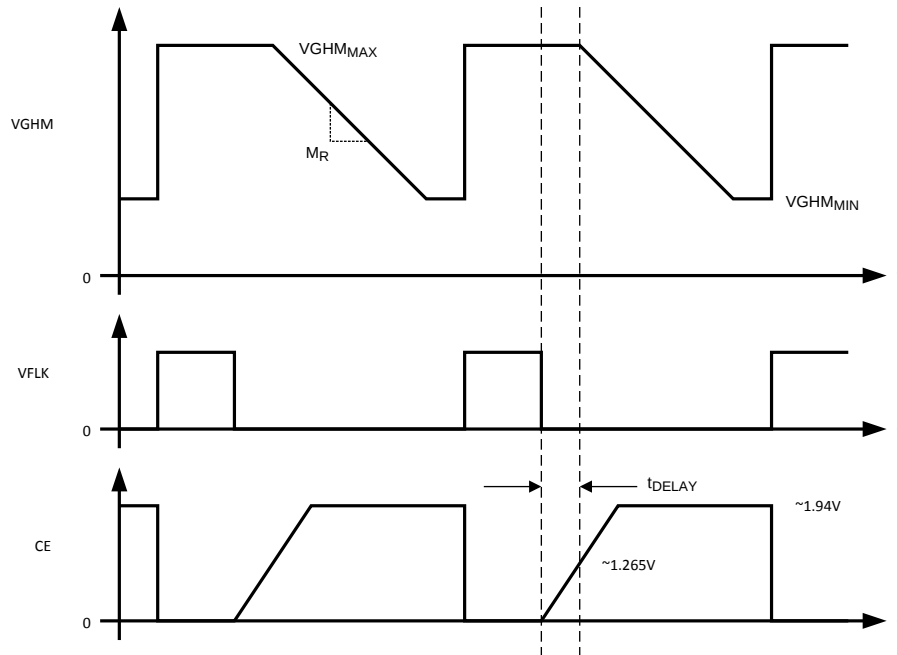
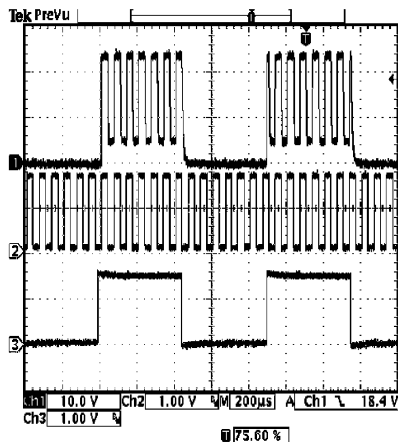

Figure 57.
Figure 58. Waveform
The Gate Pulse Modulation (GPM) block is designed to provide a modulated voltage to the gate driver circuitry of a TFT LCD display. Operation is best understood by referring to the GPM block diagram in the Block Diagrams section, the drawing in Figure 57 and the transient waveforms in Figure 58 and Figure 59.
When VDPM is high, typical waveforms for the GPM block can be seen in Figure 57. The pin VGH is typically driven by a 2x or 3x charge pump. In most cases, the 2x or 3x charge pump is a discrete solution driven from the SW pin and the output of the boost switching regulator. When VFLK is high, the PMOS switch P2 is turned on and the PMOS switch P3 is turned off. With P2 on, the VGHM pin is pulled to the same voltage applied to the VGH pin. This provides a high gate drive voltage, VGH_{MAX} , and can source current to the gate drive circuitry. When VFLK is high, NMOS switch N3 is on which discharges the capacitor CE.
When the voltage on CE reaches about 1.265V and the VFLK signal is low, the PMOS switch P2 will turn off and the PMOS switch P3 will turn on connecting resistor R3 to the VGHM pin through P3. This will discharge the voltage at VGHM at some rate determined by R3 creating a slope, M_R, as shown in Figure 57. The VGHM pin is no longer a current source, it is now sinking current from the gate drive circuitry.
Figure 58 and Figure 59 give typical transient waveforms for the GPM block. Waveform (1) is the VGHM pin, (2) is the VFLK and (3) is the VDPM. The output of the boost switching regulator is operating at 8.5V and there is a 3x discrete charge pump (~23.5V) supplying the VGH pin. In Figure 58 and Figure 59, the VGHM pin is driving a purely capacitive load, 4.7nF. The value of resistor R1 is 15kohm, R2 is 1.1kΩ and R3 is 750Ω. In both transient plots, there is no C_E delay capacitor.